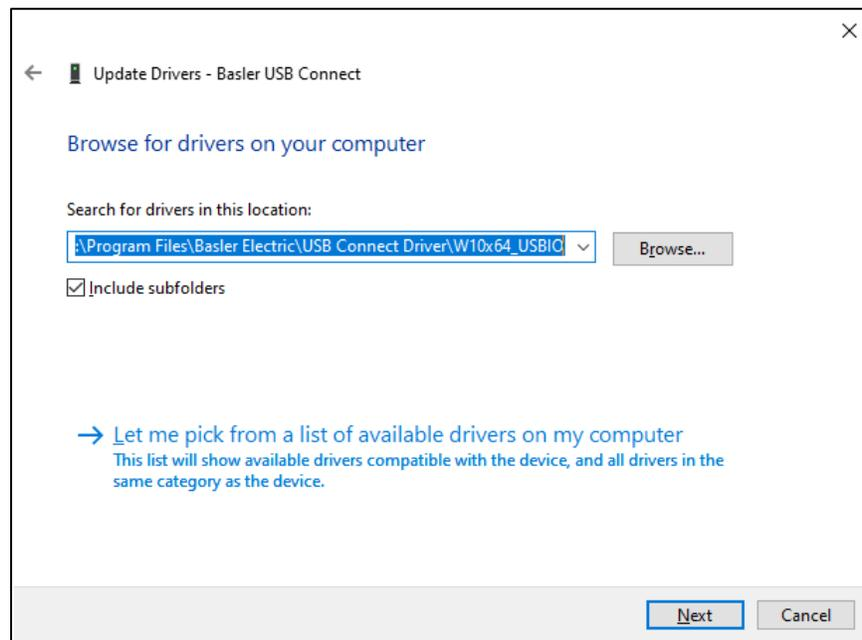

Figure 24-5. Update Driver Software - DGC-2020HD
Step 5. Click Browse and navigate to C:\Program Files\Basler Electric\USB Connect Driver\W10x64_USBIO\. Click Next. See Figure 24-5.